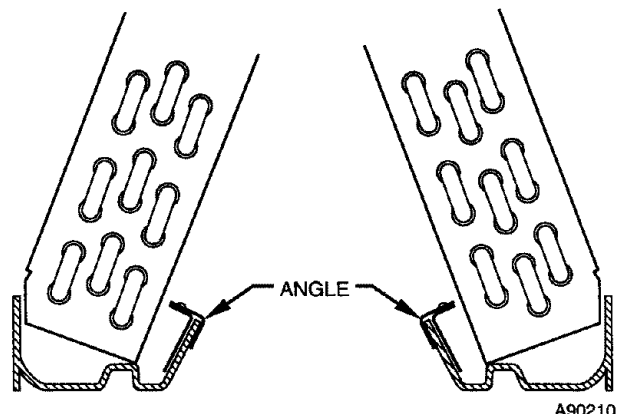

Fig. 2—Position of Angles on A-Coil
10. Tilt coil assembly back and slide angles (provided in kit) over each inside wall of condensate pan. Pop-riveted flange of angles should extend toward coil. (See Fig. 2.)